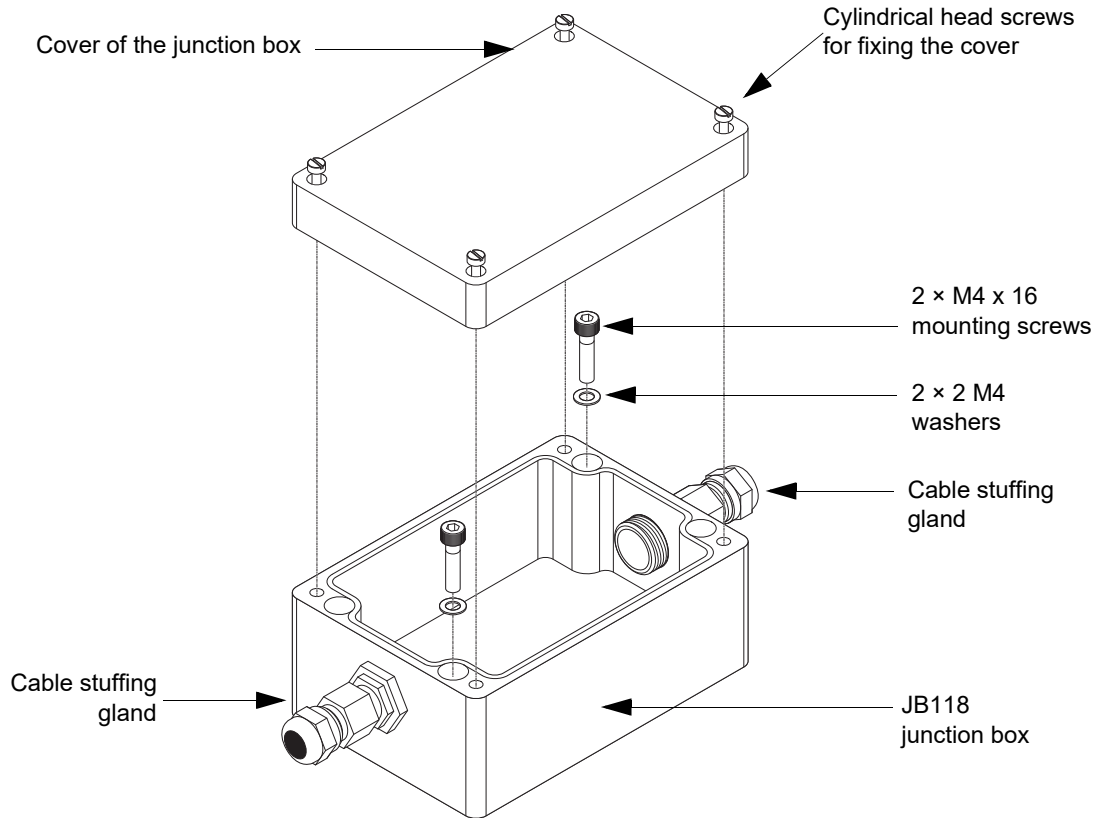

Figure 4-1: Mounting a JB118 junction box
- 3- Remove the cover of the junction box (see Figure 4-1).